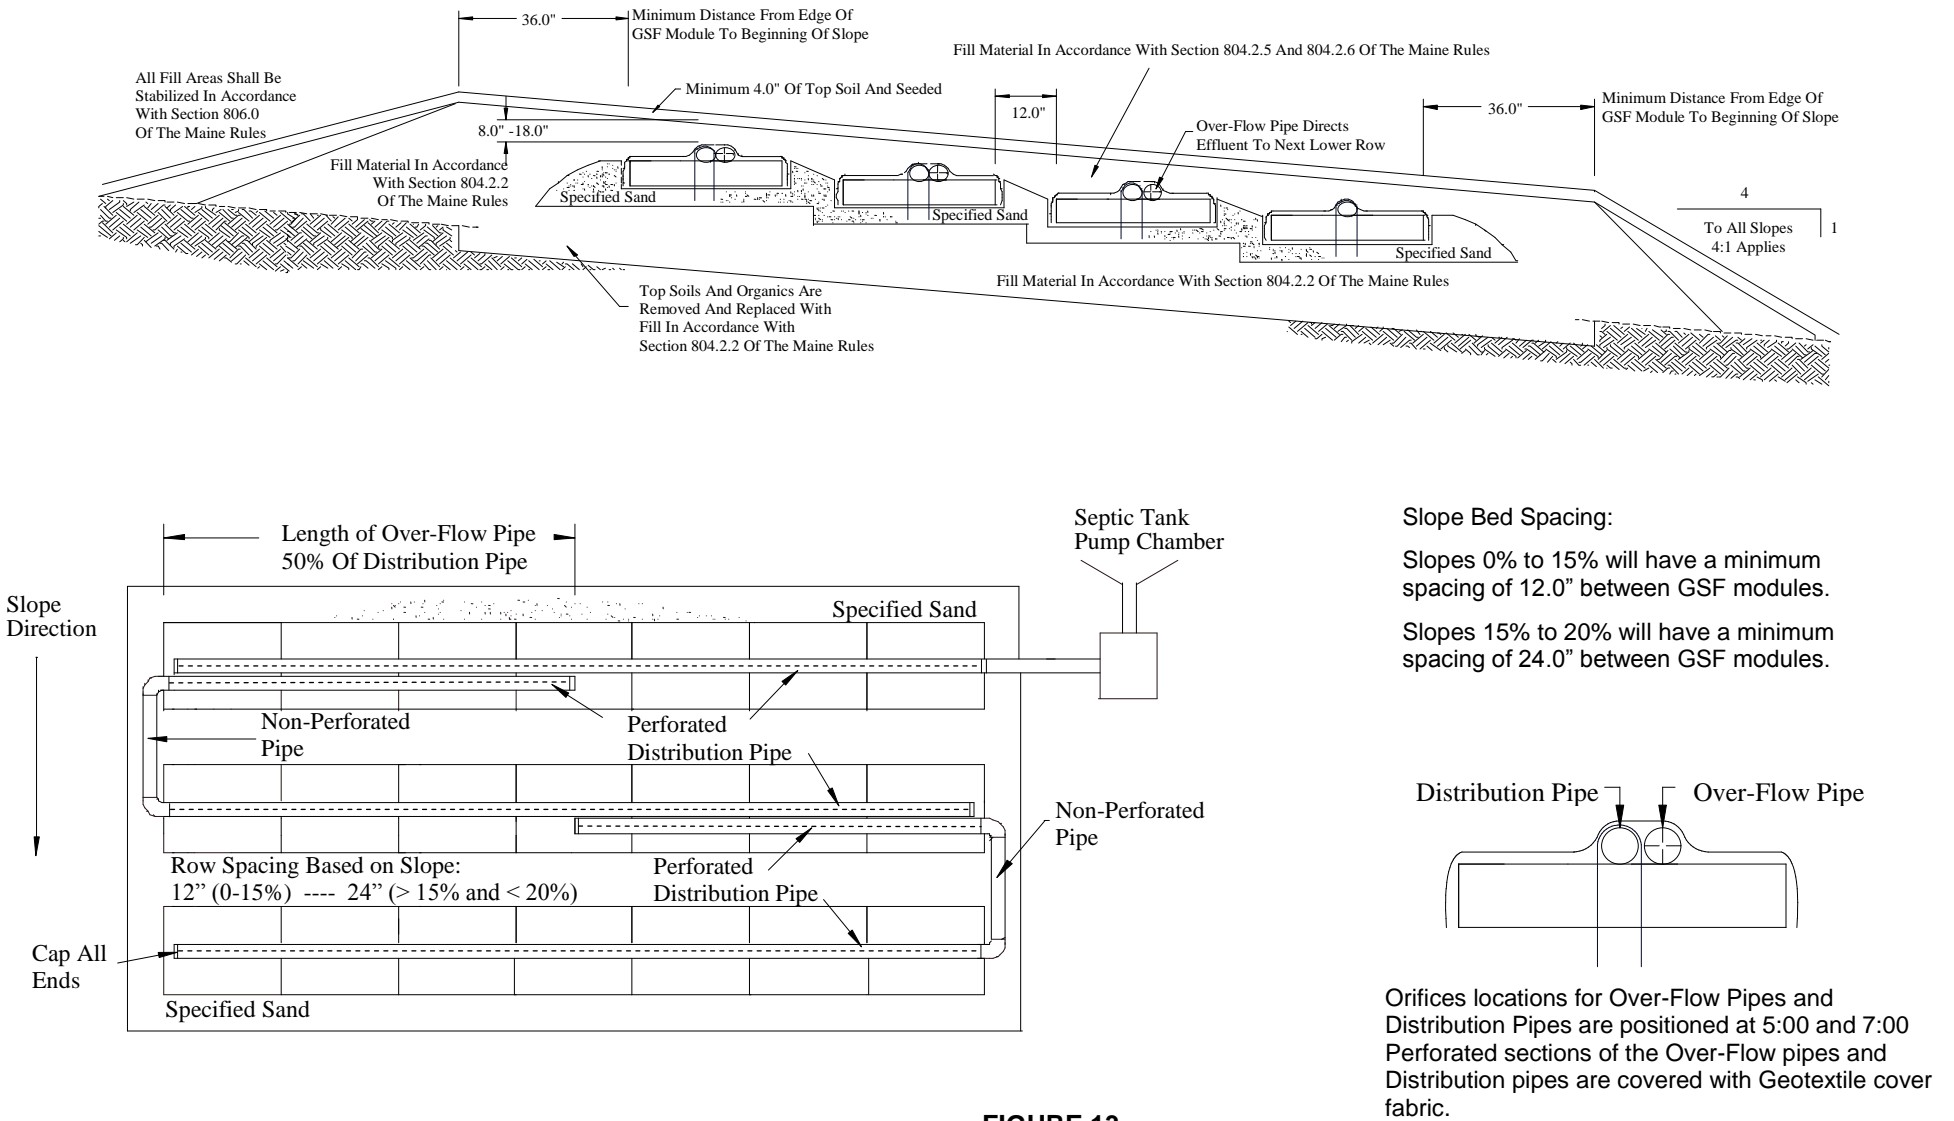

FIGURE 13
- a. Upper Trench/Row , (refer to Figure 13)
b. Next Lower Trench/Row , (refer to Figure 13)